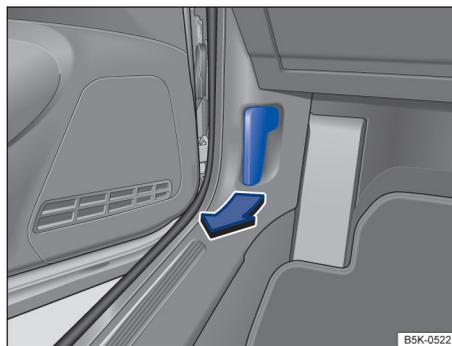

Fig. 166 In the footwell on the driver side: Inside engine hood release lever.
- Open the driver door and pull the inside hood release lever in the direction of the arrow → fig. 166. The engine hood is released from its latch by a spring → ⚠️.